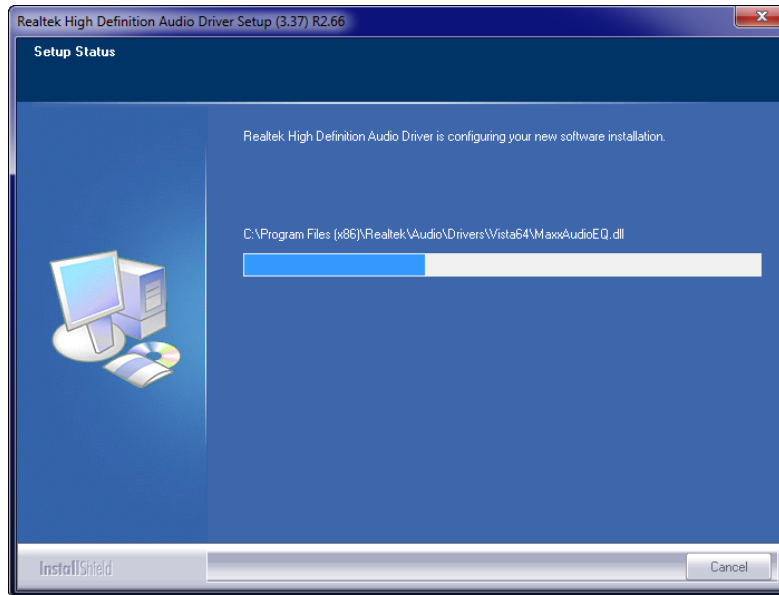

Figure 7-20: Audio Driver Installation
Step 6: The audio driver installation begins. See **Figure 7-20**.